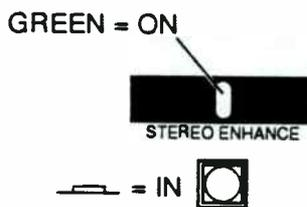

Fig. 5-5. Model 300 STEREO ENHANCE is ON.
- On the Model 300, engage the STEREO ENHANCE Switch (Green LED), as shown in Fig. 5-5, to provide a subtle, widening effect on the stereo image that is fully mono-compatible. This special feature is not a function of an audio-matrix, stereo synthesizer system, or phase manipulation. For more information, refer to FRONT PANEL CONTROLS (Section 4.1.7).